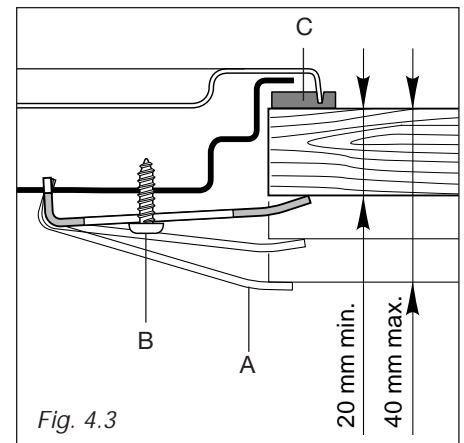

Fig. 4.3
FASTENING THE COOKTOP (fig. 4.3 - 4.4)
- ✓ Make sure that the brackets are fastened as shown in figures 4.3 and 4.4.